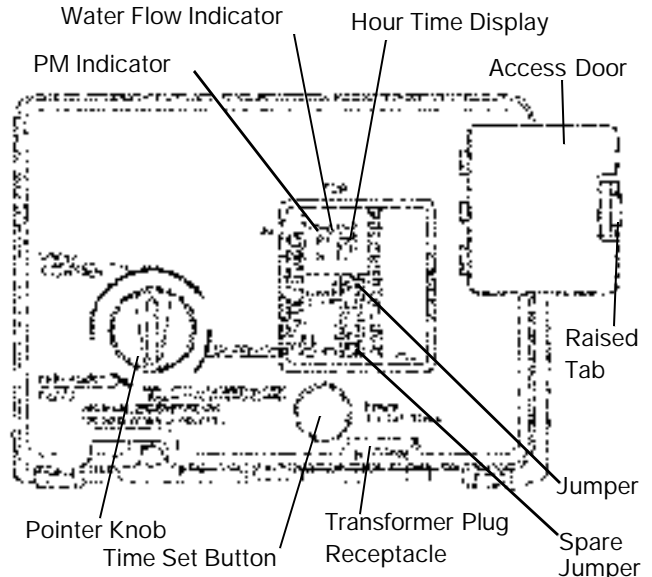

Figure 9
Note: The following steps will require turning the pointer knob (Figure 9) to various positions. Insert a wide-blade screwdriver into arrow slot in pointer knob and press in firmly. With knob held in, rotate **COUNTERCLOCKWISE** only until arrow or knob points to desired position. (Rotation is made much easier if you grasp the camshaft with your free hand and turn it at the same time.) Then permit knob to spring back out.
2. Insert screwdriver into slot in pointer knob (Figure 9). Press in and rotate knob
Open the access door by pushing the raised tab on the door toward the left while pulling the tab out (Figure 9).